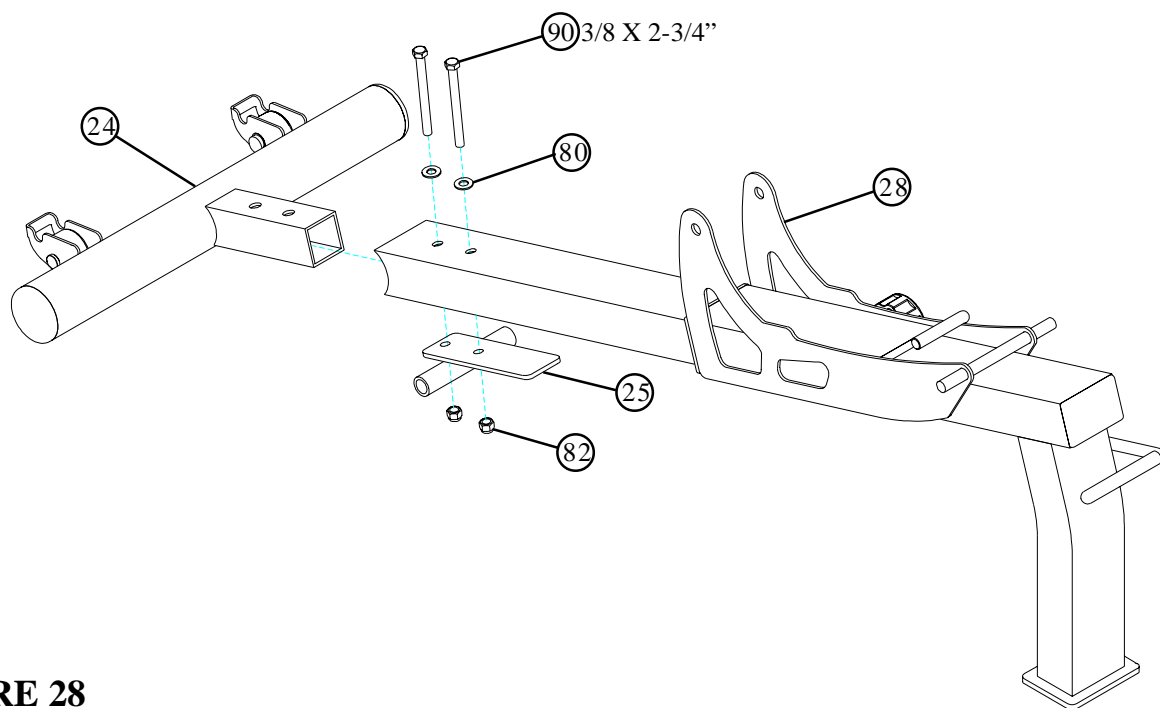

FIGURE 28
- **SECURELY** assemble the BENCH FOOT (24) to the BENCH FRAME (23) and the ROCKER PIVOT (25) using two 3/8 X 2-3/4" BOLTS (90), two 3/8" WASHERS (80) and two 3/8" LOCK NUTS (82) as shown in FIGURE 28.